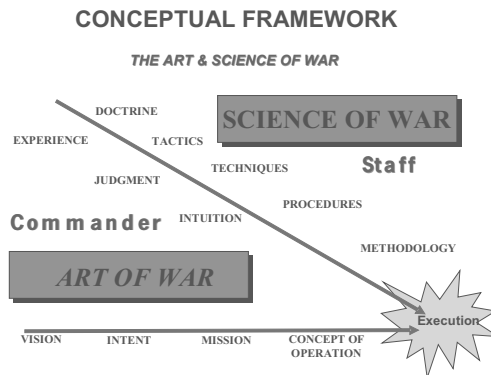

Figure 1 – The MDMP Conceptual Framework
2. The Process Itself. In concept, MDMP is a blending of the Commander’s guidance, intuition, experience, (coined as an understanding of “*The Art of War*”) coupled with the Staff’s knowledge of doctrine, tactics, techniques, and methodology (otherwise known as “*The Science of War*”) (See Figure 1). Strong Commander’s can compensate for weak staffs by articulating clear planning guidance and establishing definitive course of action criteria. Conversely, strong staffs can accommodate weak commanders but only up to a